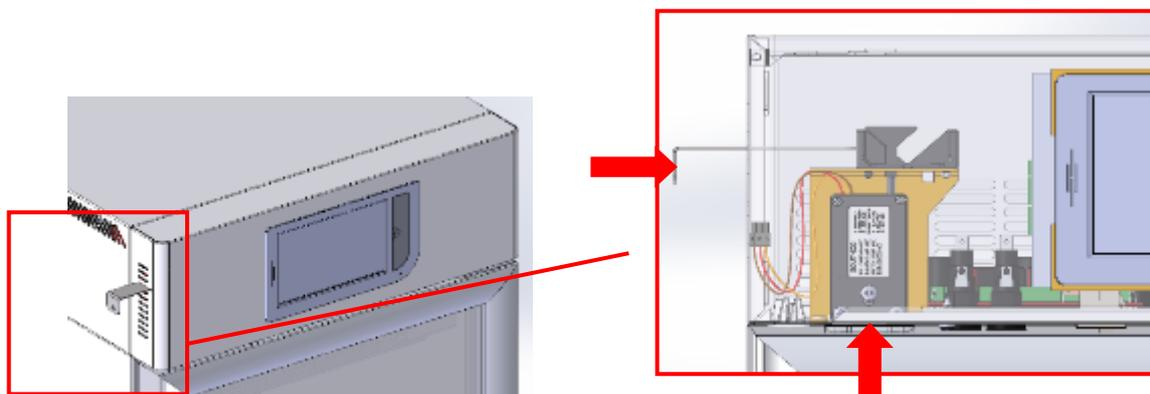

Figure 27 – key position to open the door manually in equipment with one chamber
- **One chamber equipment:** Insert the key in the dedicated slot, placed on the frontal panel side, in accordance with the door handle position. In order to be able to open the door, it is necessary to hold the release lever pushed. By stopping pushing, the mechanism door will be locked again. (Figure 27).